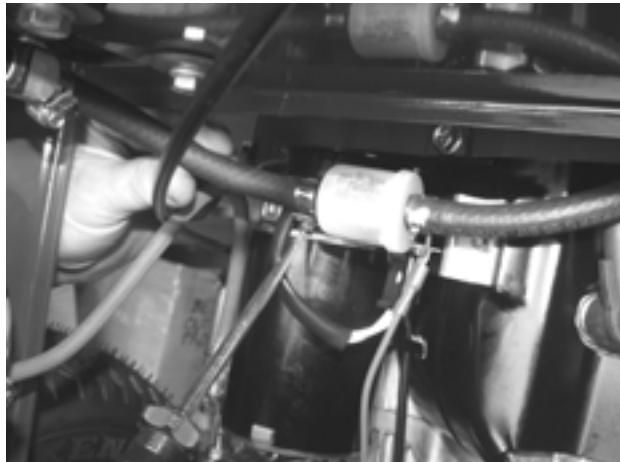

Figure 58
6. Using a straight screwdriver, disconnect fuel line from engine **Figure 58**.